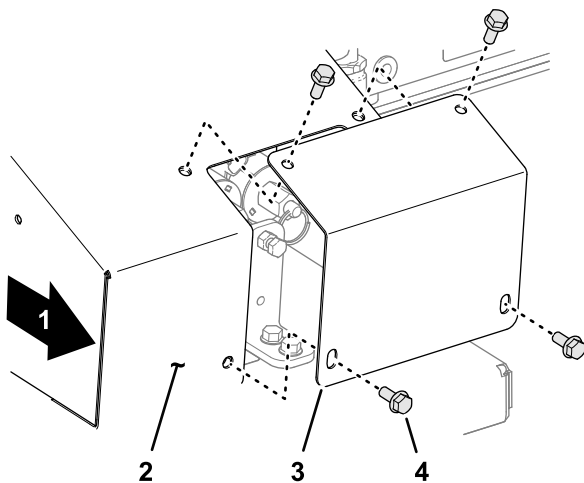

Figure 32
1. At the right side of the machine, remove the 4 flange-head capscrews that secure the cover plate to the override cover (Figure 32).